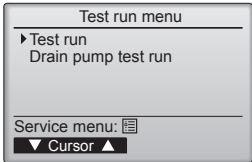

Fig. 6-5
- ④ Select "Test run" with the **[F1]** or **[F2]** button, and press the button. (Fig. 6-5)